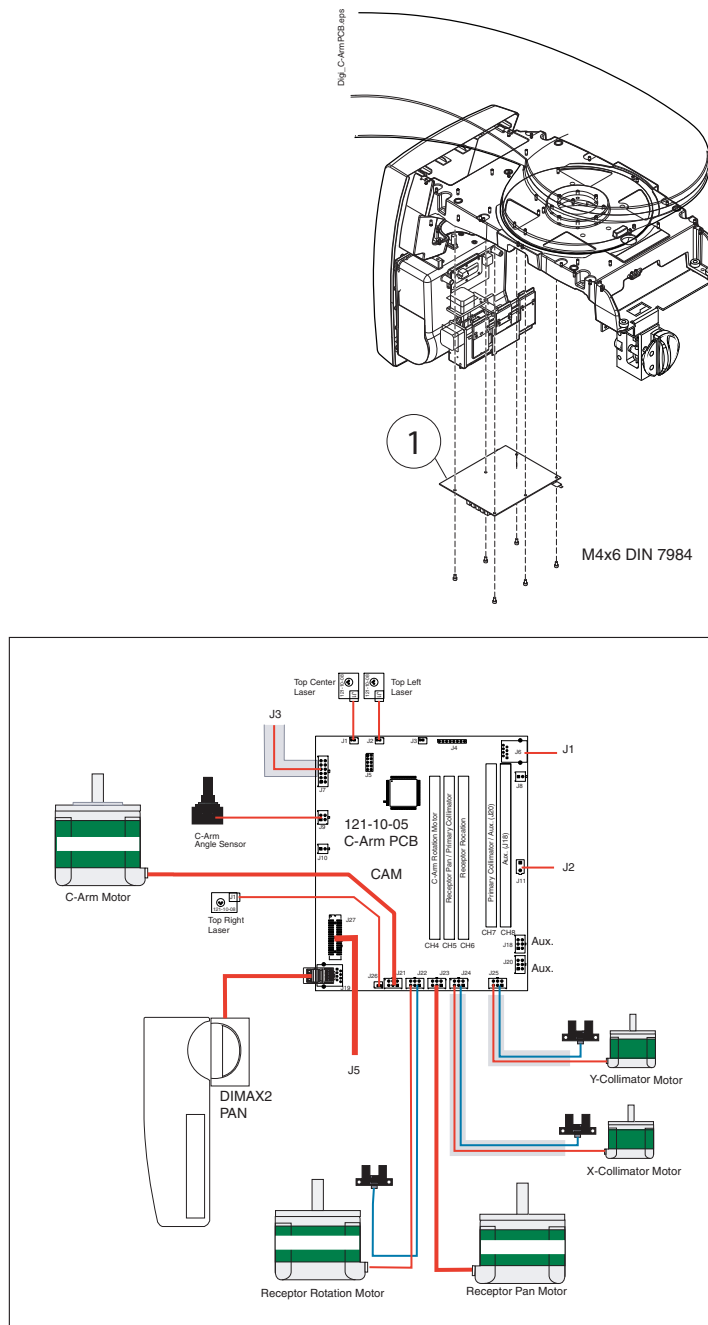

Figure 131
- Unscrew the C-arm PCB attachment screws with 2.5mm Allen key and remove the PCB (Fig. 131, 1).
- Install the new C-arm PCB in reverse order. Connect the cables as shown in Fig. 131.